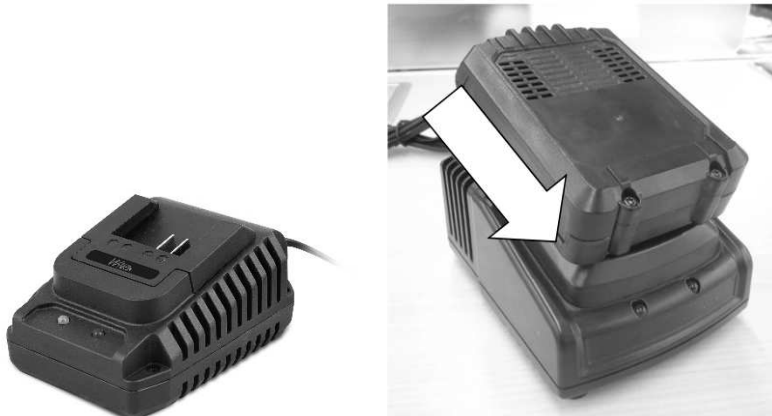

Figure.9
**Charing the rechargeable battery by charger, Connect the charger to the battery charging port (Figure.9)**